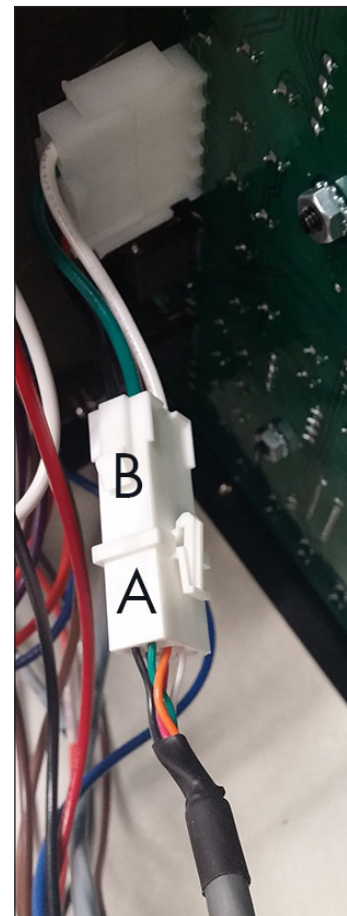

Figure 7: Radio Connection
5. Connect the 6-pin power/signal cable from the radio receiver unit (A) into the mating 6-pin radio adapter cable (B) connected to the **J2 RADIO JACK** on the left side of the driver printed circuit board (PCB). Refer to **Figure 7**.